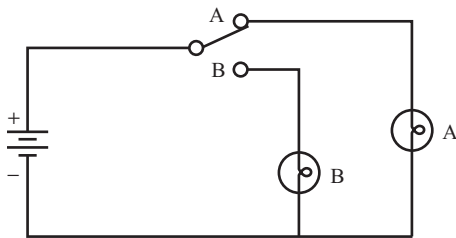

FIGURE 1.14
**33** The circuit shown in Figure 1.14 includes a single pole double throw switch. The position of the switch determines whether lamp A or lamp B is lit.